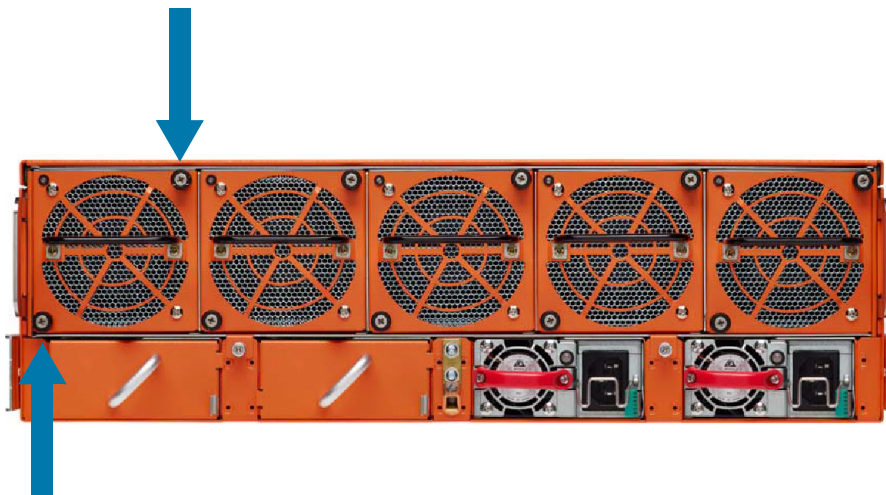

Figure 4-7: Fan Module Screw Location on GigaVUE-HC3 Rear
1. Locate the two thumb screws on the fan module as shown in Figure 4-7 on page 77.
5. Tighten the thumb screws on each fan module, then use a Phillips screwdriver to tighten the screws. Refer to Figure 4-7 on page 77.